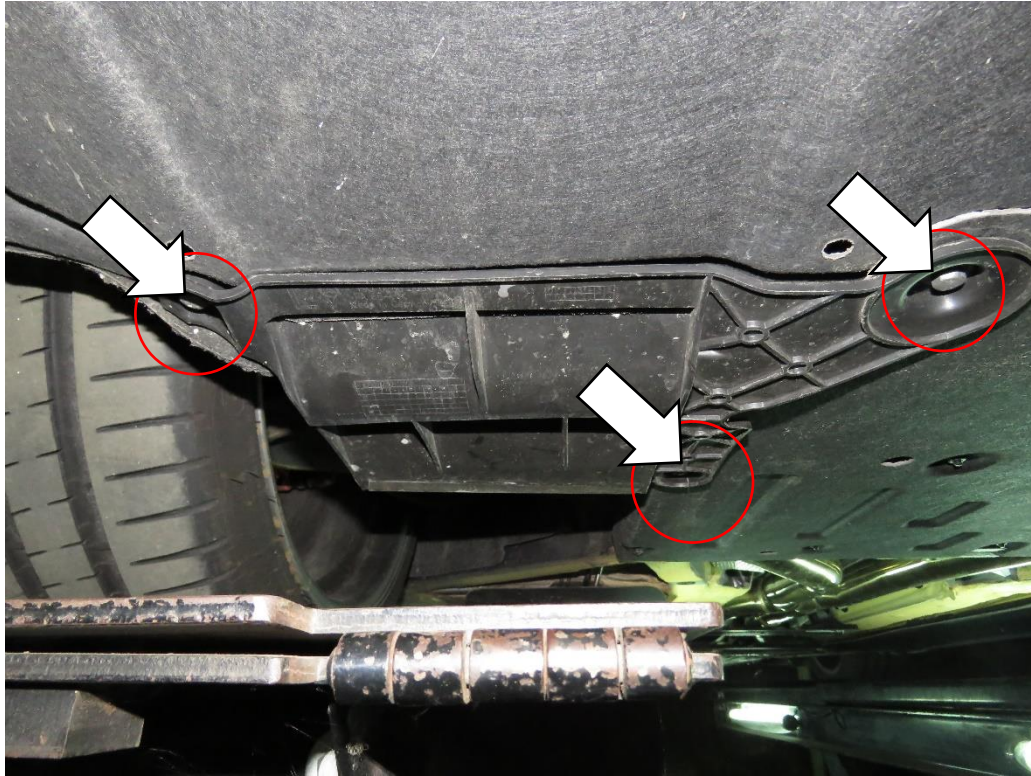

Fig. 1
1. Remove the left and right spoilers. (Fig.1)